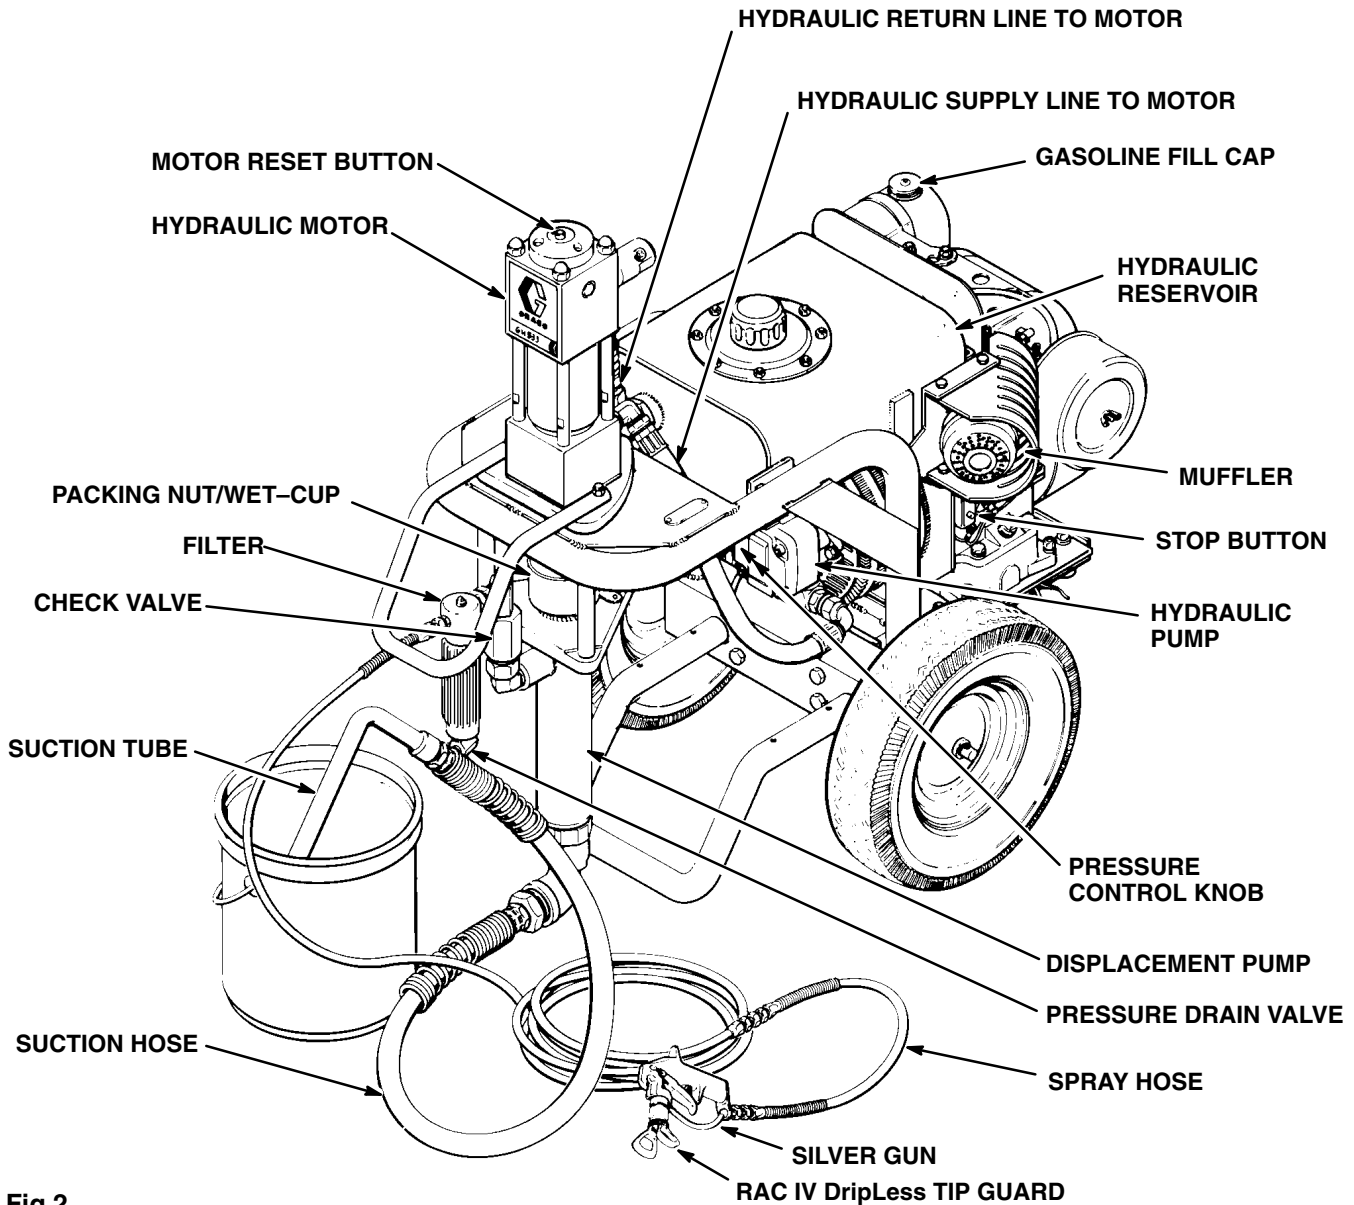

Fig 2
- Remove the plastic cap plug from the outlet tee and screw an accessory, conductive or grounded spray hose onto the 1/4 npsm(f) outlet nipple. See Fig 2.
- Connect a small diameter, 3 ft (0.9 m) whip hose between the main hose and a spray gun, if desired, for more flexible gun movement. See Fig 2.